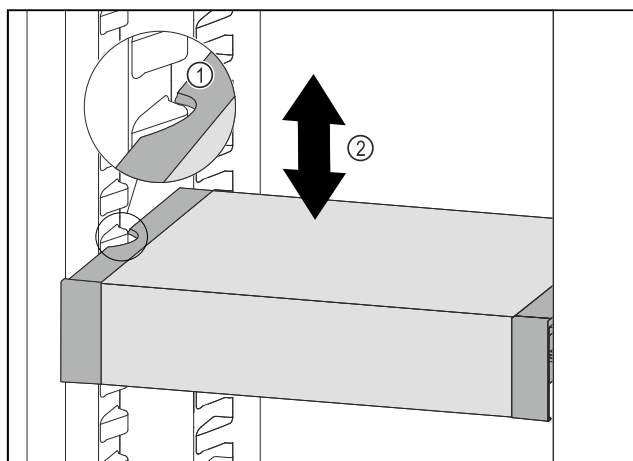

Fig. 121
- Pull VarioSafe forwards until the recesses in the side of the VarioSafe are at the level of the support rib in the refrigerator compartment. Fig. 121 (1)
- Move VarioSafe up or down in the refrigerator compartment until the desired height is reached. Fig. 121 (2)